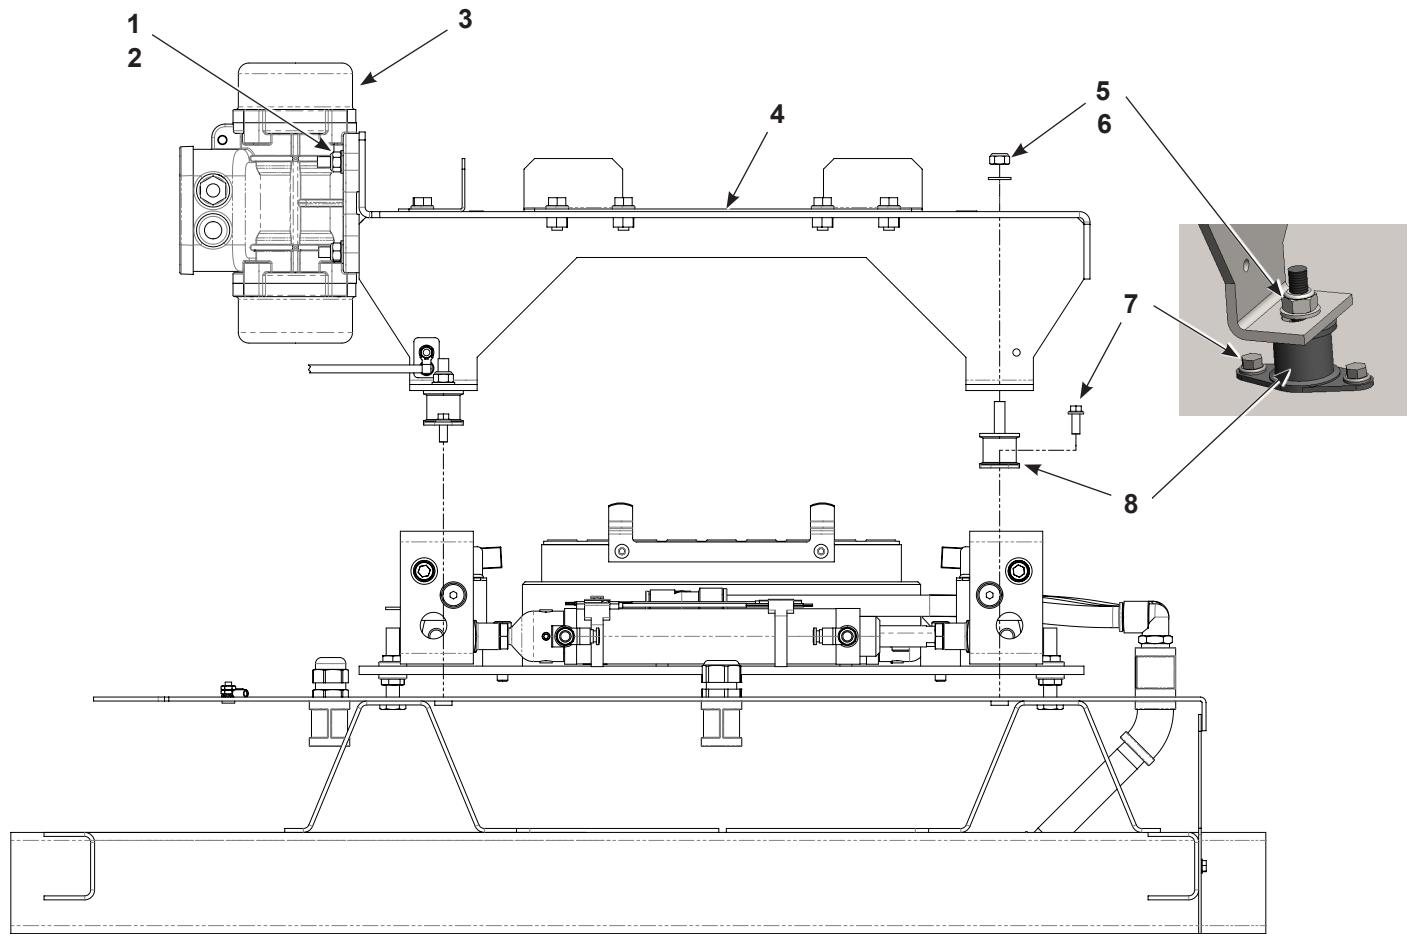

Figure 8-23 Vibratory Table Isolator Mount Replacement (Side View of Vibratory Table)
1. See Figure 8-23. Remove the four socket-head cap screws (1) and lock washers (2) securing the vibrator motor (3) to the vibratory table.
3. Unscrew and remove the nuts (5) and washers (6) from top of vibratory table (4).
5. Unscrew the hex screws (7) to remove the the four isolator mounts (8) from the vibratory table.